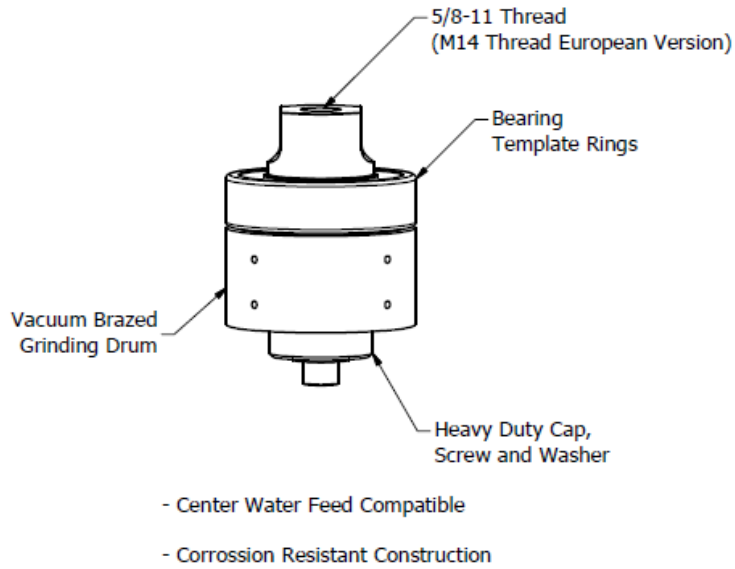

FIGURE 1 - 3" Rapid Z™-Drum with Template Bearing (Assembled)
6. As the diamonds begin to dull grinding will become harder. At this point the drum can be reversed to extend its life. This can be accomplished as follows (see Figure 1 & 2):